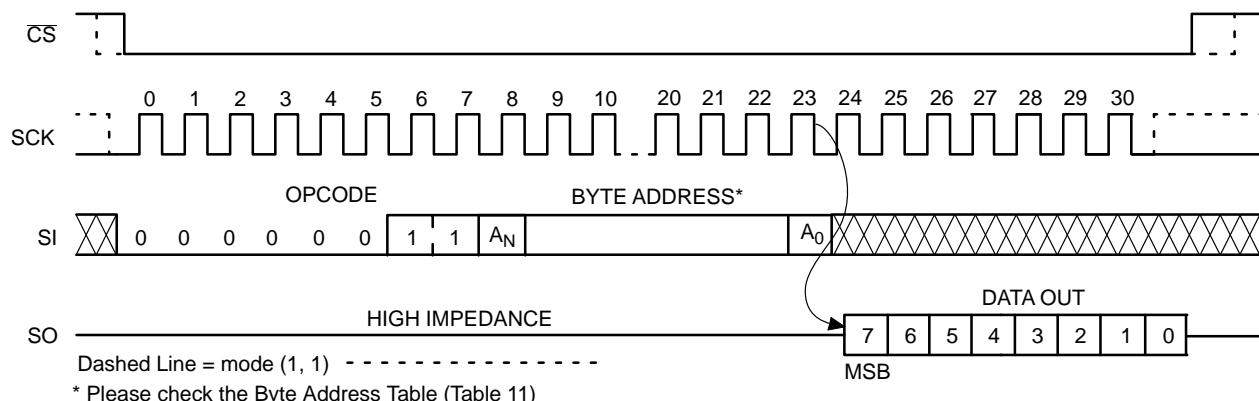

Figure 8. READ Timing
After receiving the last address bit, the NV25xxx will respond by shifting out data on the SO pin (as shown in Figure 8). Sequentially stored data can be read out by simply continuing to run the clock. The internal address pointer is automatically incremented to the next higher address as data is shifted out. After reaching the highest memory address, the address counter “rolls over” to the lowest memory address, and the read cycle can be continued indefinitely. The read operation is terminated by taking CS high.
Reading the additional 32-byte Identification Page (IP) is achieved using the same Read command sequence as used for Read from main memory array (Figure 8). **The IPL bit from the Status Register must be set (IPL = 1) before attempting to read from the IP.** The [A4:A0] are the address significant bits that point to the data byte shifted out on the SO pin. If the CS continues to be held low, the internal address register defined by [A4:A0] bits is automatically incremented and the next data byte from the IP is shifted out. The byte address must not exceed the 32-byte page boundary.